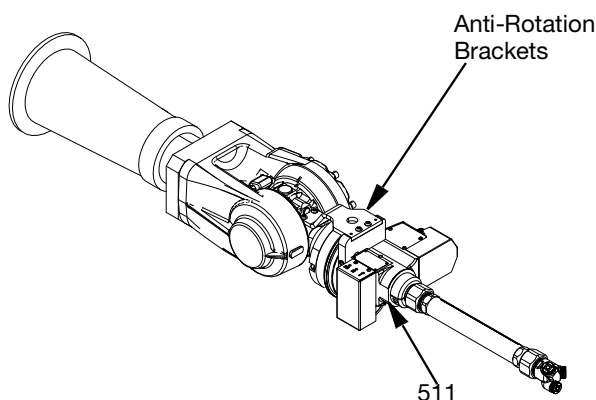

FIG. 3
After the SST Switch 3D Gun is mounted to the robot, the anti-rotation brackets must be attached to the swivel housing (511) and to the fixation point on the robot using the hex head screws. Exact fitting of the anti-rotation brackets will depend on the robot and kit being used. See FIG. 3 for installation example and page 31 for swivel housing part reference.